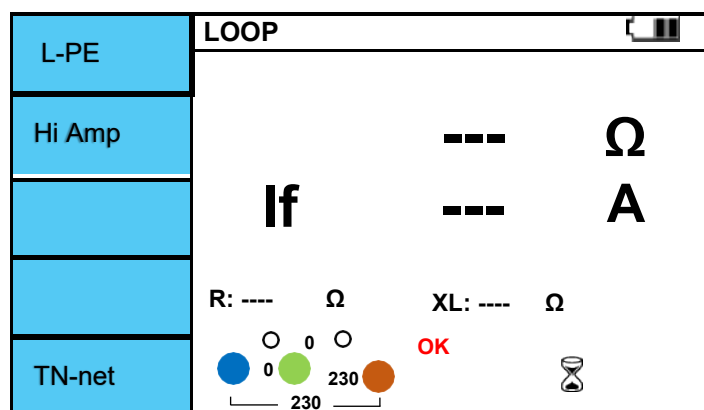

Figure 6.5.5 Loop / Hi Amp screen.
- IV. IV. If there is no problem with the test lead connection, the terminal status is displayed as shown in Figure 6.5.5 "OK" is displayed in the right window.